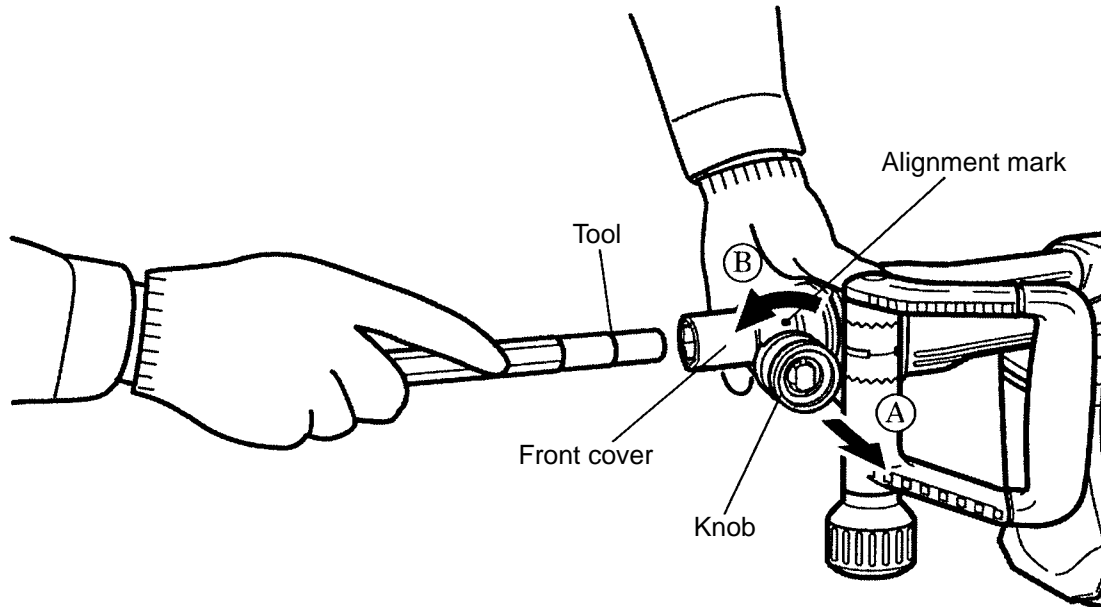

Fig. 11
A lever-type retainer is employed to permit easy one-touch mounting and removal of bull points etc. As illustrated in Fig. 11, pull the knob in the direction indicated by arrow (A), and turn it 90° counterclockwise (arrow (B) direction) to align it with the alignment mark on the front cover. Insert the tool shank fully into the hexagonal hole in the front cover, and return the knob to its original position. The tool is then securely attached.